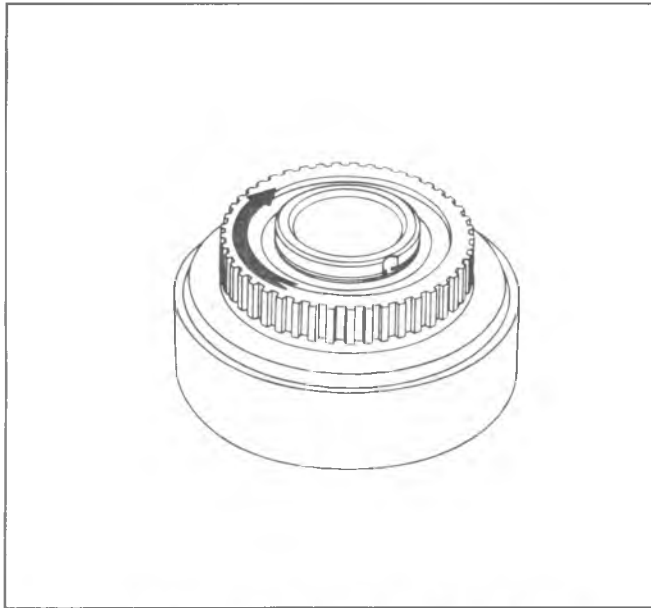

Fig. 7A-108C--Intermediate Roller Clutch Rotation
13. Install intermediate clutch retainer and snap ring (Fig. 7A-109C and 7A-110C).